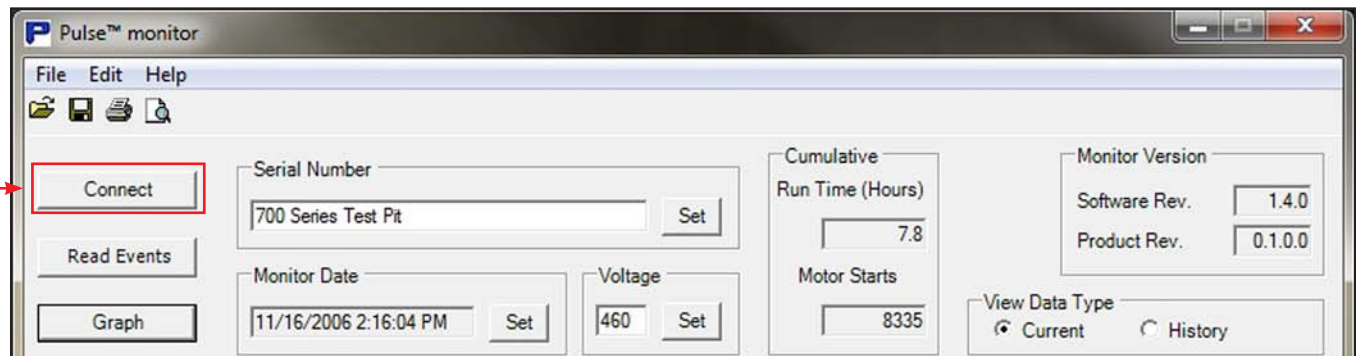

FIGURE 4
3. Open Pulse monitor software on computer and press the **Connect** button. See Figure 4.